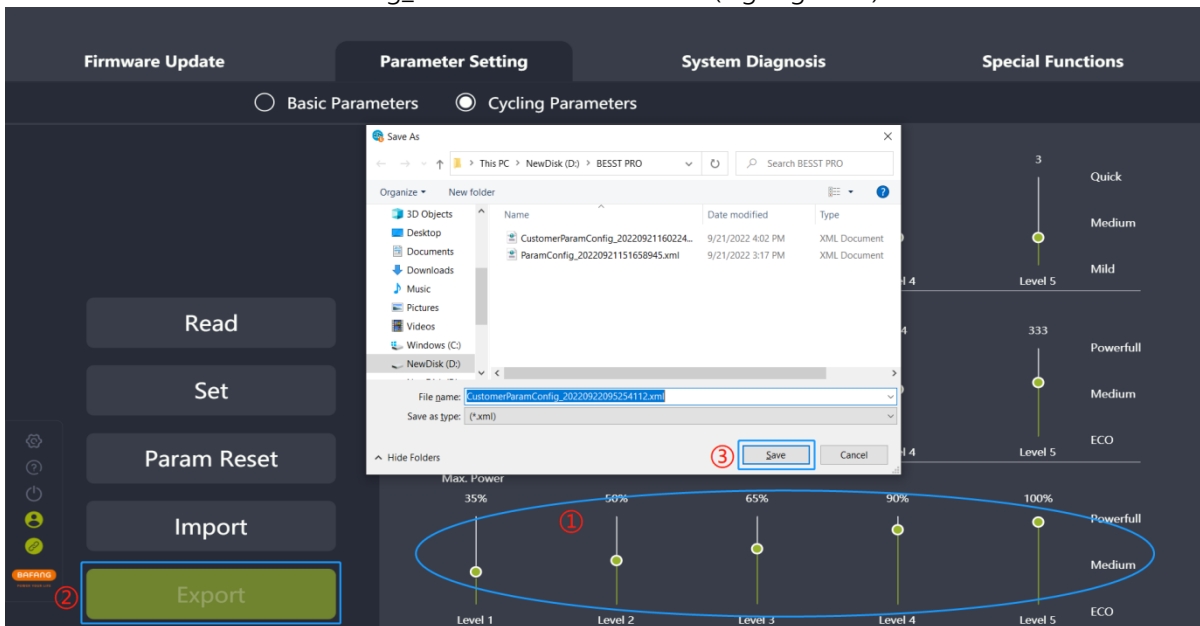

Fig. 5-16 Export
- (1) Set the parameters;
- (2) Click the “Export” icon;
- (3) Export the configuration information of the parameter interface and the controller hardware version (for import verification) to a file and save it locally. The path can be chosen independently and the file name can be edited, for example: CustomerParamConfig\_20220922095254112.xml (e.g. Fig. 5-16).